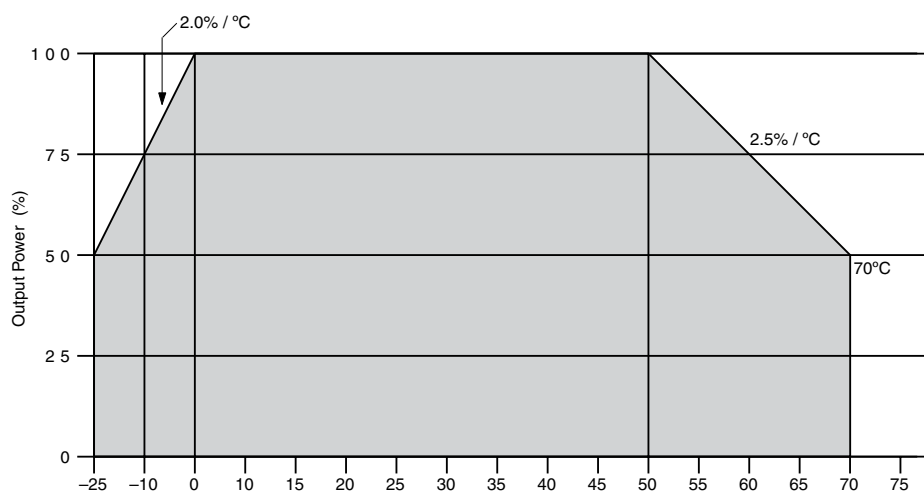

Figure 3. Temperature Derating
Operating Temperature	0 to +50°C @ full rated power; -25 to +70°C @ 50% rated power (see Figure 3)
Cooling	Free air convection with derating (see Figure 3 and Technical Notes)
9. **Temperature Derating (See Figure 3):** All DMS-PS-CM supplies are specified to operate at their full rated power over the temp range of 0°C to +50°C in still air (convection cooling) without any thermal derating. For operation over +50°C in still air, derate the output power linearly by 2.5% per °C down to 50% rated power at +70°C. To operate the units at full rated power between +50°C and +70°C, a minimum forced-airflow of 100 LFM is required. For operation below 0°C, derate the output power linearly by 2.0% per °C down to 50% rated power at -25°C.